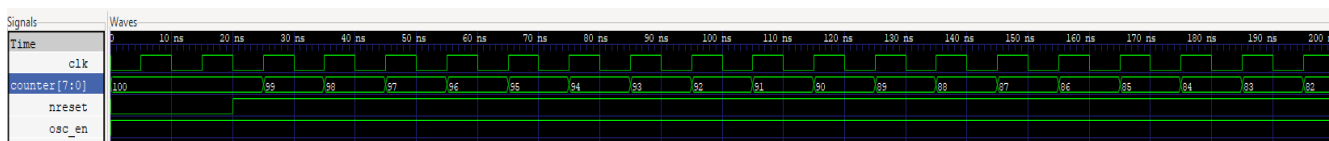

Figure 2: Countdown Timer Functional Waveform
Using the ForgeFPGA Workshop software, the Verilog code was synthesized, and the bit stream was loaded on to the SLG47910 device. The functional waveforms below (see Figure 2) shows the countdown timer counting from 100 (default setup) down to 0.
9. In the GTKWave software, select the signals you want to view and Click Insert on the left corner to insert the signals in the wave window. Once the desired signals are selected, click on Reload (Figure 2).